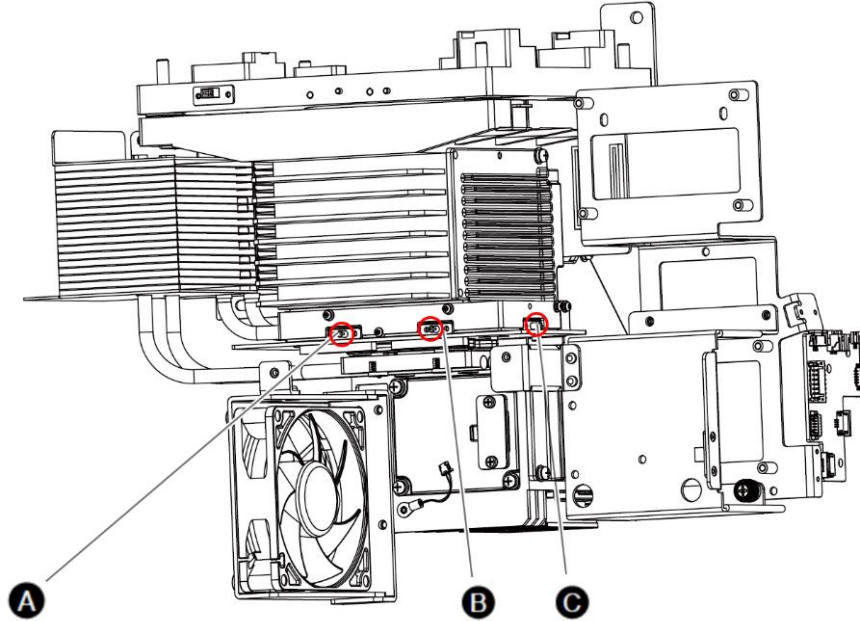

Figure 72: Locate A, B and C knob screws
Step 3: With reference to **Figure 72**; for up-down and rotation adjustment, the **A** or **B** knob screw is adjusted separately for rotation. **A** and **B** knob screws are adjusted at the same time for up-down adjustment and the **C** knob screw is adjusted for left-right adjustment.